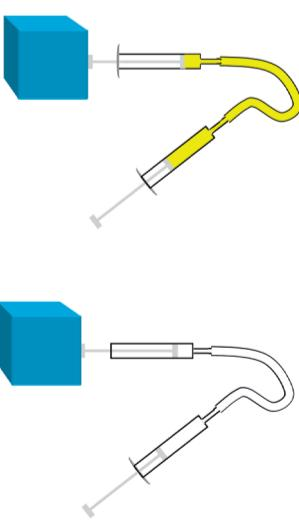

Figure 6
6. A pneumatic and a hydraulic system are shown below in Figure 6. In each case the two syringes are exactly the same size. Two heavy objects of the same weight are resting on plungers on the right in each case.